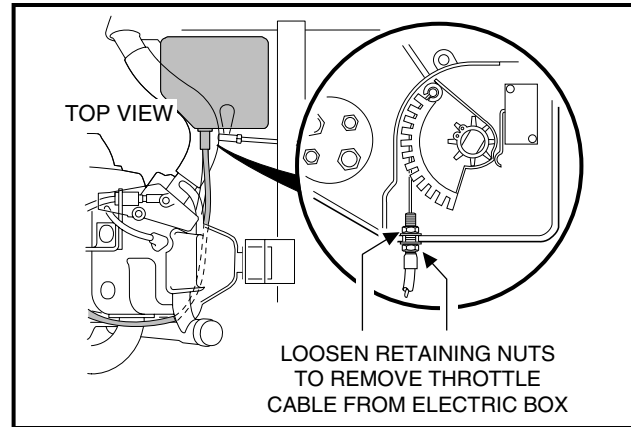

FIGURE 10-14
- 2.5. Use a 5/16" nut driver to remove the cover from the electrical component box. Then, using a 10 mm wrench, loosen the hardware securing the accelerator cable to the box. Disconnect the cable from the actuator cam and remove it from the box (**Figure 10-14**).